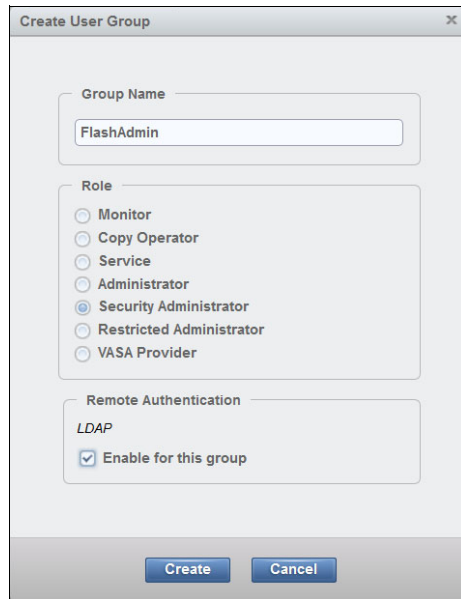

Figure 9-48 Select Security Administrator
3. The Create User Group window opens (Figure 9-48). For the Group Name, enter FlashAdmin, select **Security Administrator**, and select the **Enable for this group** check box under LDAP.